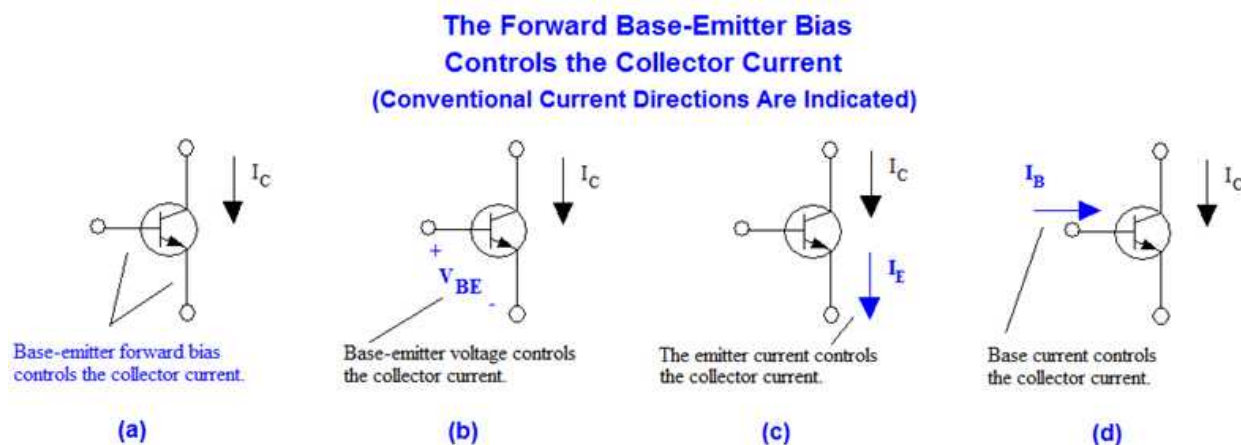

Figure 5-6.
The forward base-emitter bias controls the collector current. Refer to Fig. 5-6. As the forward bias applied to the base-emitter p - n junction is increased, the collector current will also increase. When the base-emitter bias is increased the voltage V_{BE} across the base-emitter p - n junction will increase. There will also be an increase in the base and emitter currents.
Conventional current directions have been indicated in Fig. 5-6. The double subscript notation means the voltage at the first terminal relative to the second terminal listed. Consequently, V_{BE} means the voltage at the base terminal (B) with respect to the emitter terminal (E). If V_{BE} is 0.7 V, then V_{EB} will be -0.7 V. Think about this. ***If the base is 0.7 V more positive than the emitter, then the emitter must be -0.7 V with respect to the base.*** Equation 5-3 is based on these concepts.